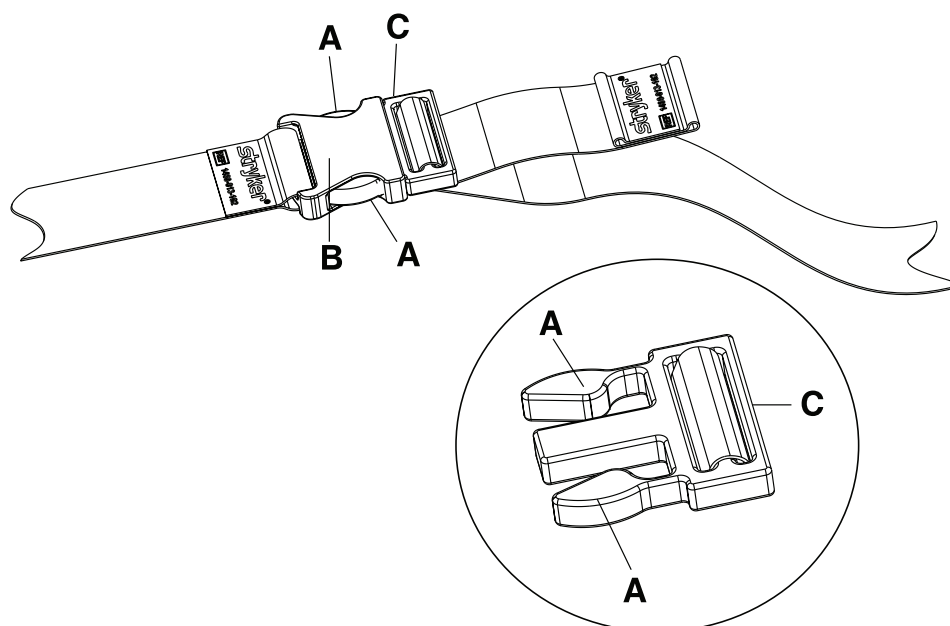

Figure 15: Open the lap belt
1. To open the lap belt, grasp and squeeze the tabs (A) on the buckle latch. Pull on the buckle receiver (B) and the buckle latch (C) to separate them (Figure 15 on page 25).